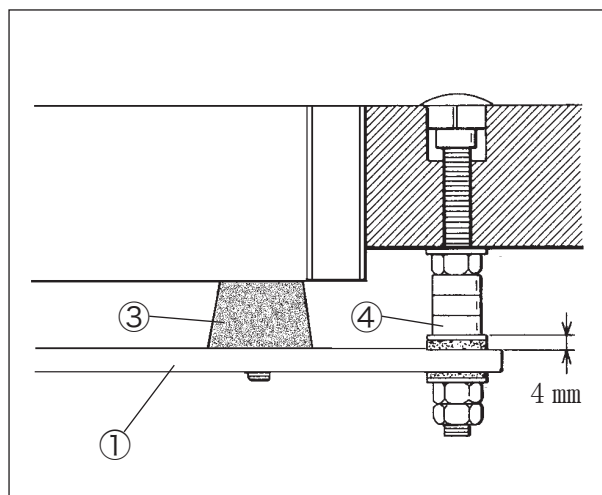

Fig. 2-2
Install a machine correctly referring to Figs. 2-2 and 2-3. Set the screws ② in the supporting board ① and cover the screws ② with the rubber cushions ③. Fix the supporting board ① to the machine table and install a machine securely on the rubber cushions ③.